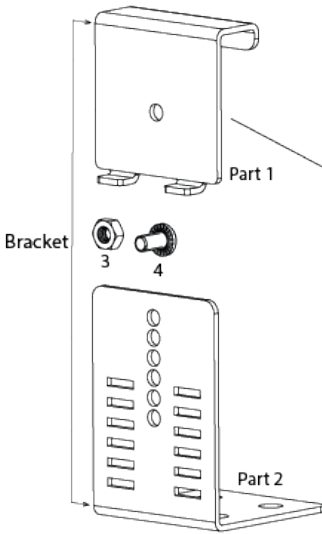

Figure 3
2. Measure the dimension 'A' in Figure 3 .